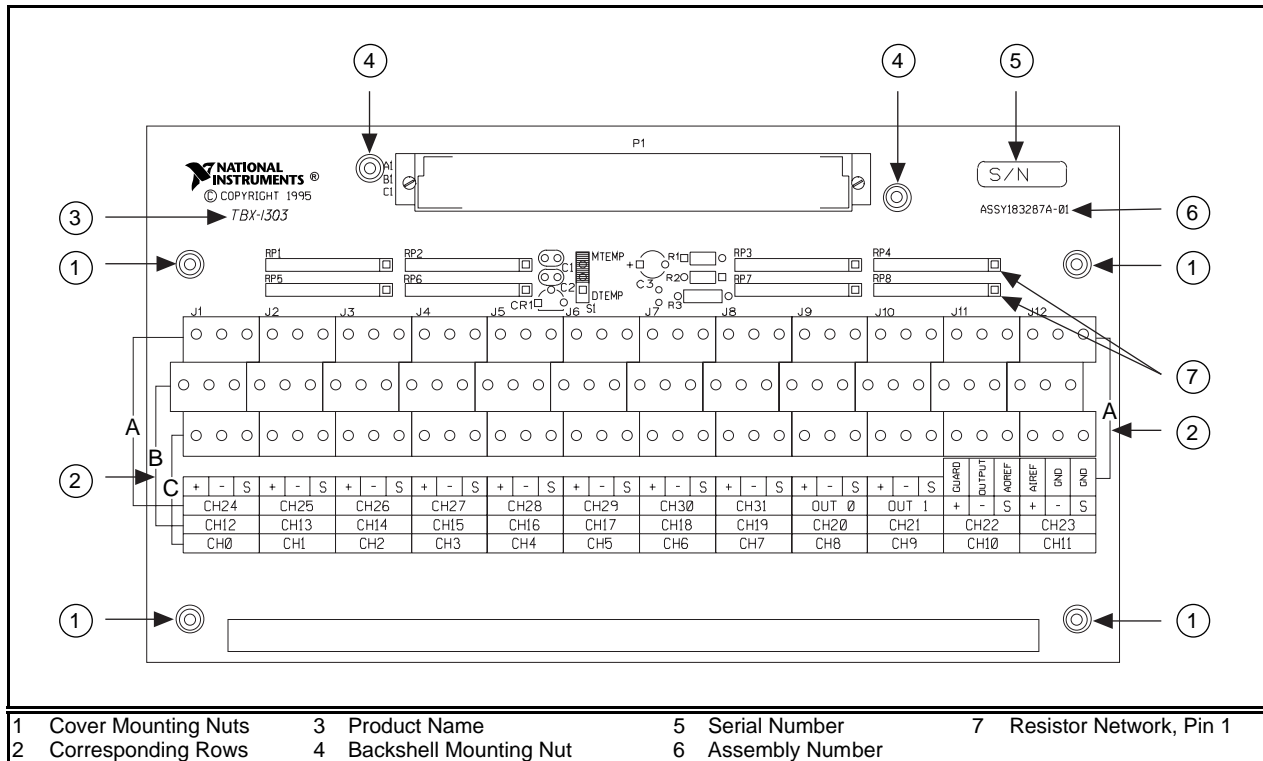
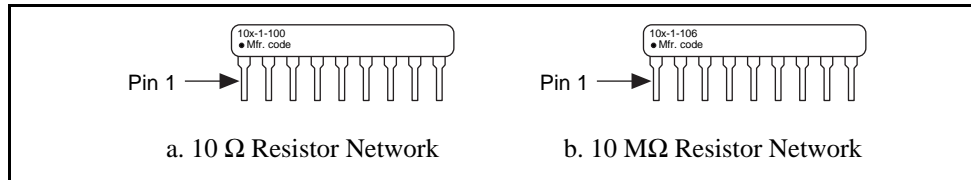

Figure 6. TBX-1303 Parts Locator Diagram
Figure 8. Resistor Networks
Note: *The board has corresponding rows labeled A, B, and C to help you make the correct connections, as shown in Figure 6, item 2.*
The installation and signal connection are now complete. Figure 6 shows the TBX-1303 parts locator diagram.
Use long-nose pliers to remove or replace the resistor networks in the sockets; be careful not to damage the network package. Make sure pin 1 of each network is in the correct socket (see Figures 6 and 8).
Each resistor network is labeled with descriptive numbers on the left front side, and pin 1 is located directly beneath the darkened symbol within these numbers. The 10 Ω resistor network is labeled *100* ($10 \times 10^0 \Omega$); the 10 M Ω resistor network is labeled *106* ($10 \times 10^6 \Omega$). Figure 8 shows examples of these resistors.
Use long-nose pliers to remove or replace the resistor networks in the sockets; be careful not to damage the network package. Make sure pin 1 of each network is in the correct socket (see Figures 6 and 8). Each network is labeled with descriptive numbers on the left front side, and pin 1 is located directly beneath the darkened symbol within these numbers. The 10 Ω resistor network is labeled *100* ($10 \times 10^0 \Omega$); the 10 M Ω resistor network is labeled *106* ($10 \times 10^6 \Omega$). See Figure 8 for an example of each of these resistors.